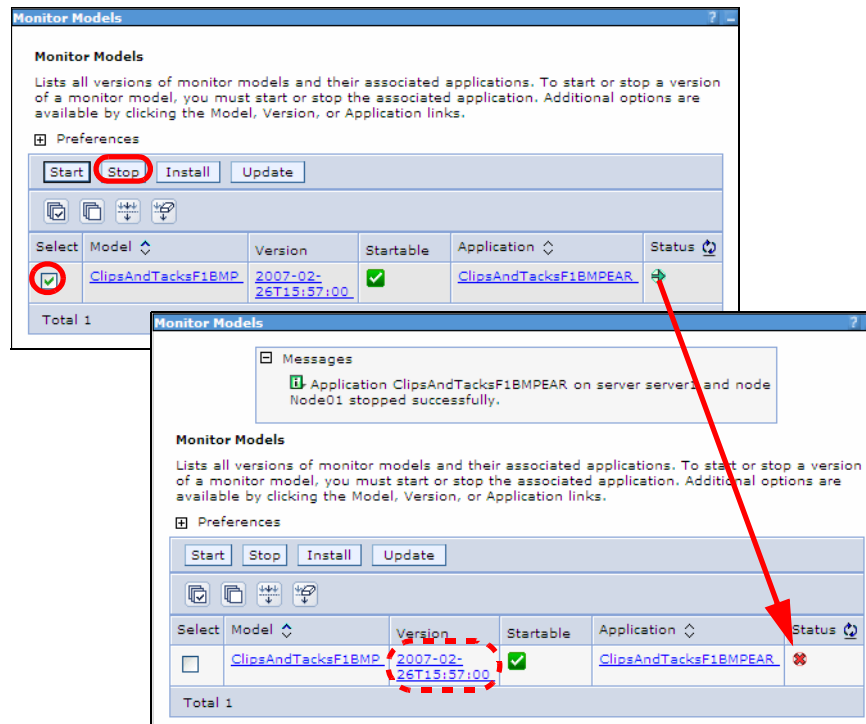
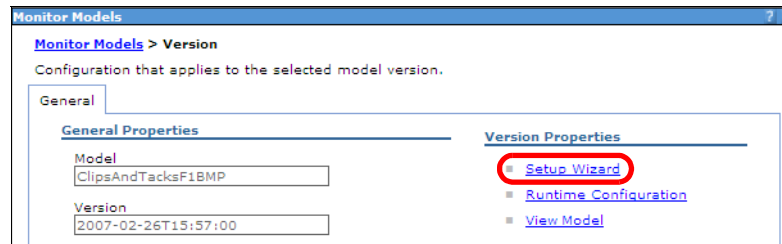

Figure 14-47 Monitor model undeployment: Stop the model
Figure 14-48 Monitor model undeployment: Setup Wizard
- ▶ Open the Monitor Models view in the administrative console (*Applications* → *Monitor Models*) and stop the model (Figure 14-47):
Next remove the Alphablox cubes. Click the *Version* link (Figure 14-47), then click *Setup Wizard* (Figure 14-48).